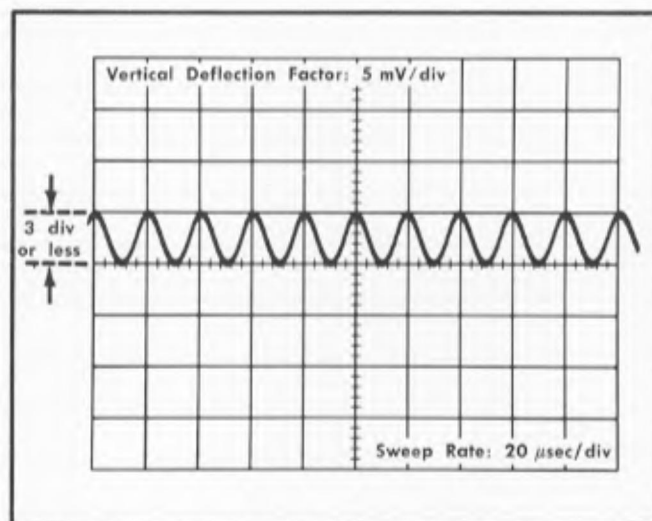

Fig. 5-48. Checking input crosstalk to B side of amplifier when signal is applied to input A.
- e. Check that the amplitude of the display is 3 div or less (see Fig. 5-48). This corresponds to the  $\leq 5\%$  input crosstalk requirement.